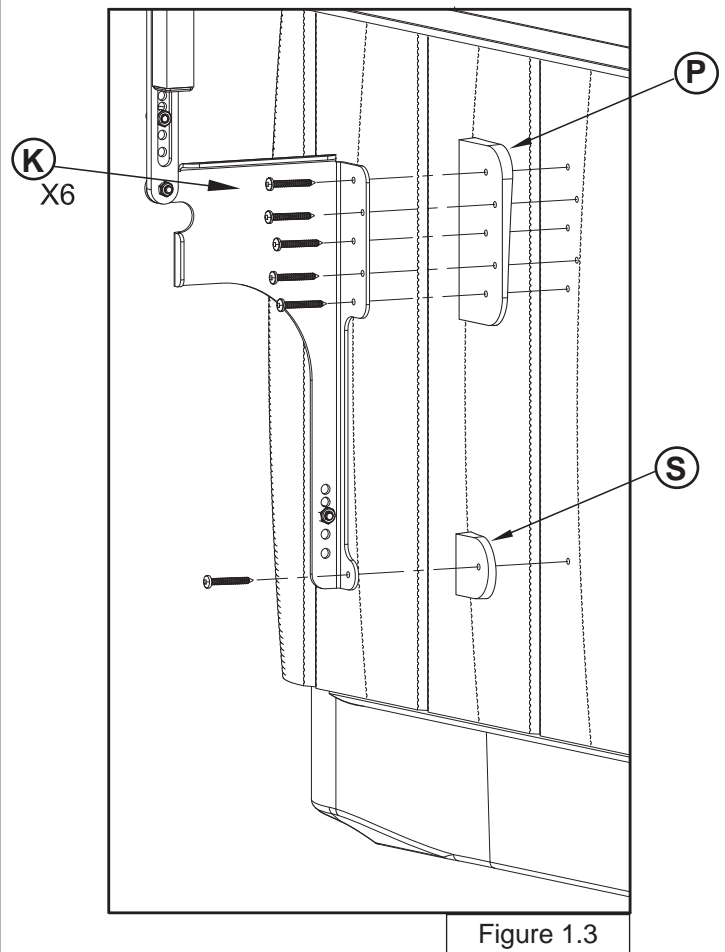

Figure 1.3
There are two predrilled holes on the top of each plate. Feel around the side of the cover to find the holes in the plates. Use a fine tip marker to mark the center of the hole for each of the four plates that will be used (Figure 1.3).
Making sure to align the holes on the bracket to the holes on the spacers (R)&(T), secure the mounting bracket and spacers (R) & (T) to the spa cabinet using (12) of the Pan Head Screws (K) (Figure 1.3). Bag # 3 (K) (#10 2" Pan Head screws).